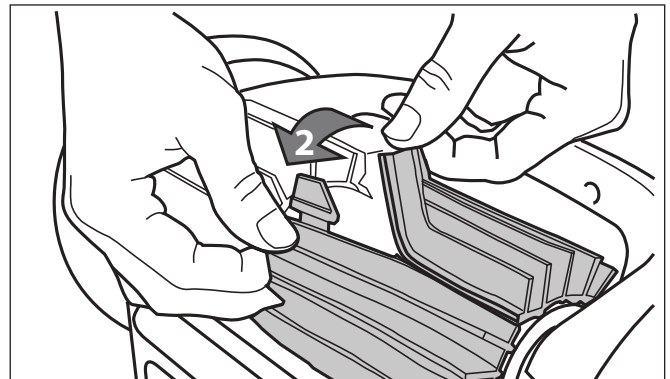

Figure 21. Undo the Tabs of the Brush
- Separate the edges of the brush and undo the tabs (Figure 21). Remove the worn brushes.